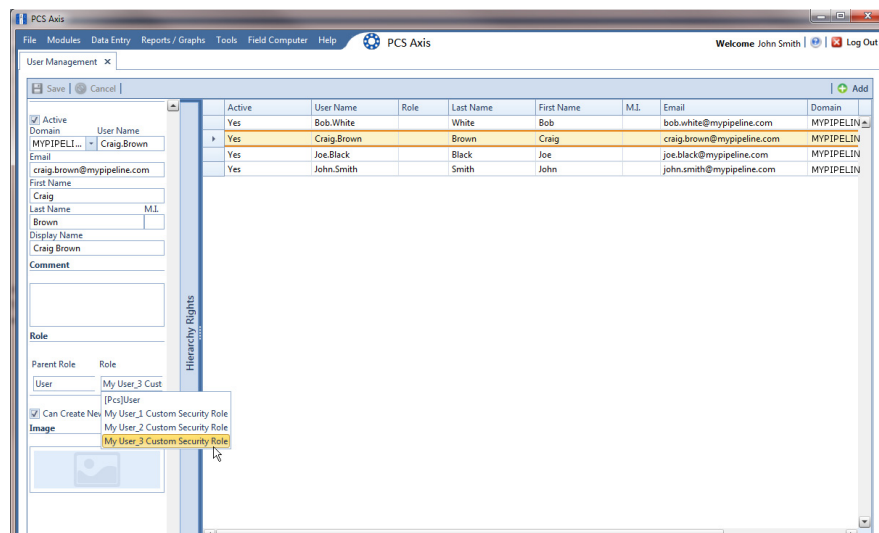

Figure 3-24. User Management
- 1 Click **Tools > User Management** to open the *User Management* window (Figure 3-24).